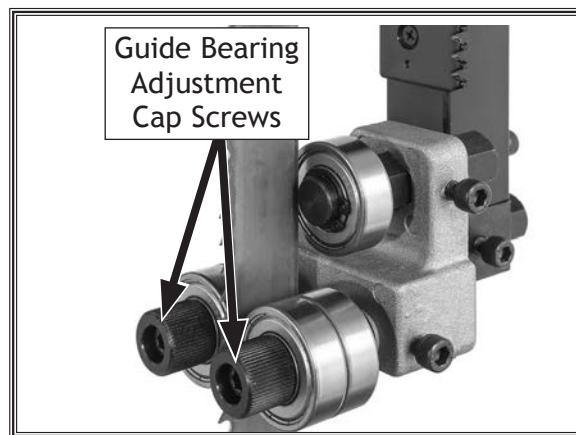

Figure 56. Location of upper guide bearing adjustment cap screws (guide post cover removed for clarity).
3. Loosen both guide bearing adjustment cap screws (see **Figure 56**), then position guide bearings so they are close to—but not quite touching—sides of blade.